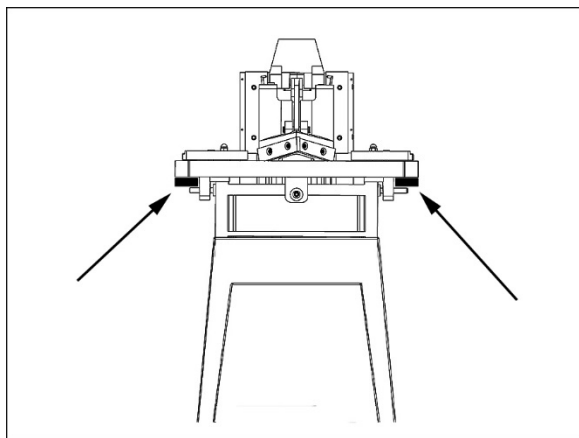

Figure 5-1: lifting the machine
2. Use forklift or hoist with straps to carefully move machine off pallet and into position. **Lifting equipment must be properly rated for weight of machine.** Position forks or straps below table as shown in Figure 5-1.